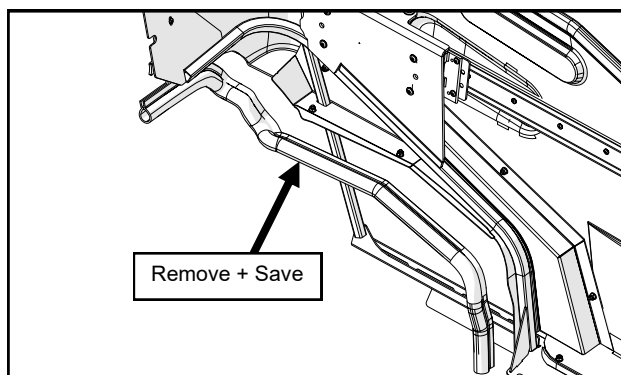

Fig. 2.1 (remove rubber - Drive only)
**2.1** Per figure 2.1, remove rubber on the left and right contours and set aside.